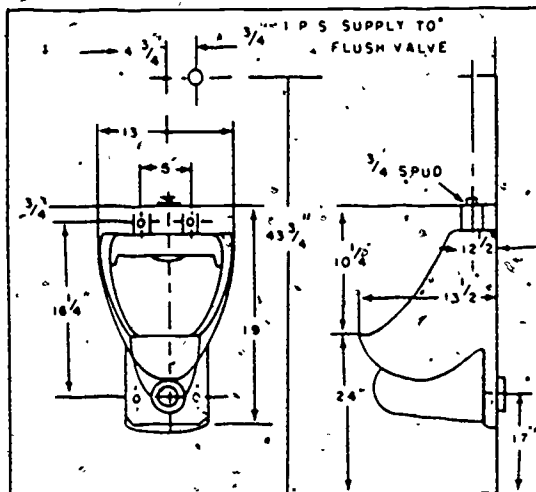

Figure 3-9 Manufacturer's rough-in specifications sheet for a wall-hung urinal.
**Location of Urinals.** When you install waste pipe for a urinal, you should consult the manufacturer's rough-in specifications for the exact installation measurement. The waste pipe must be located so that the lip of the urinal is from 22 to 25 inches above the floor. The manufacturer's rough-in specification sheet for a wall-hung urinal which has an integral trap is illustrated in figure 3-9.